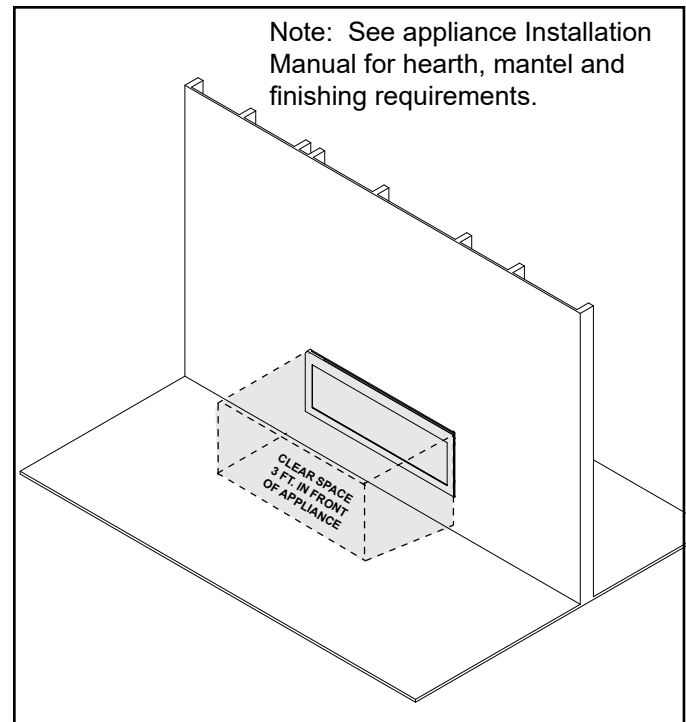

Figure 3.1 Clear Space
**WARNING! DO NOT place combustible objects in front of the appliance.** High temperatures may start a fire. See Figure 3.1.